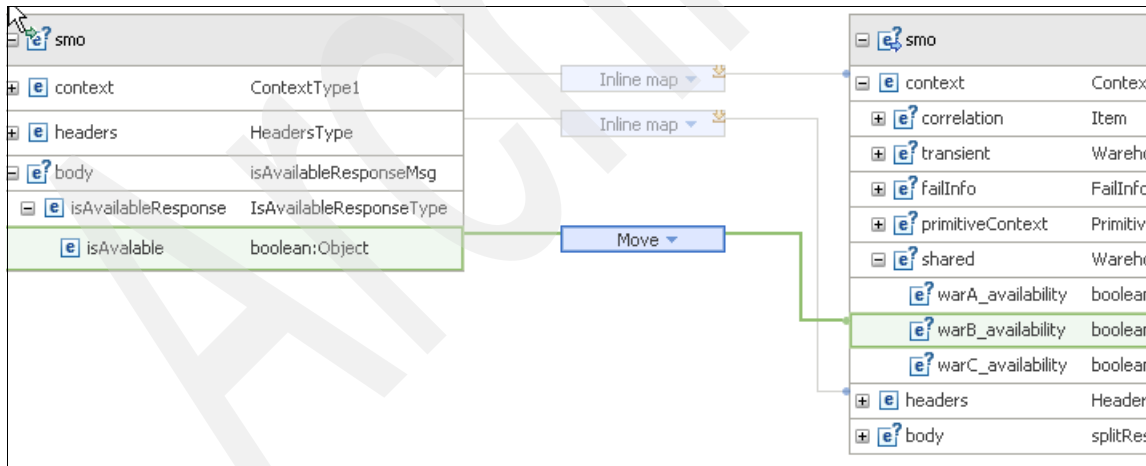

Figure 6-56 Aggregating warehouse B availability to shared context
- ▶ Map the input message body → isAvailableResponse → isAvailable to the output message context → shared → warB\_availability, as shown in Figure 6-56.